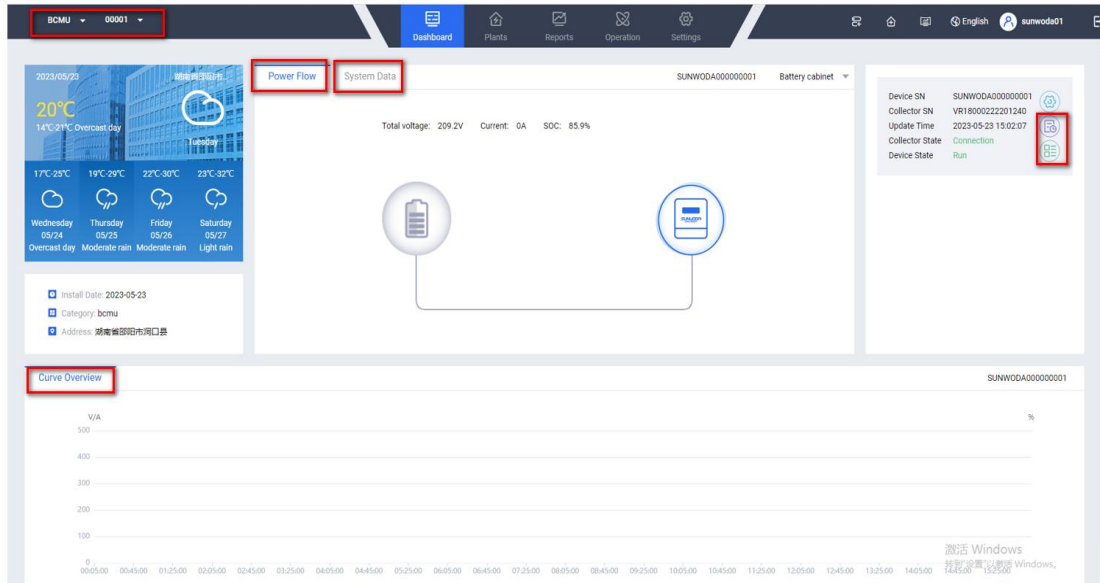

Figure 4.23
(1) After adding the equipment, select the newly built site and equipment in the current interface, you can refer to the location of the red box for energy flow, system data, equipment details and historical data viewing and exporting (Fig. 4.23) .